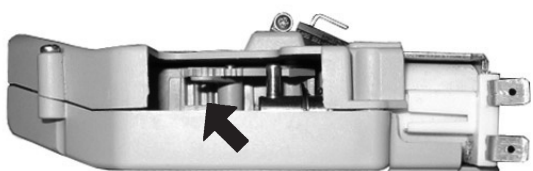

Fig. 54
- release the adjusting lever from the rack and place the dragging tooth of the inner panel on one of the 4 positions available, which indicate the basic quantity area (6 gr. – 7 gr. – 8 gr. – 9 gr.) (Fig. 54);